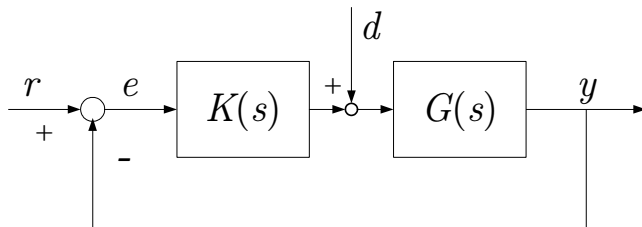

Figure 5.1 : Feedback Control System.
- ▶ For the closed-loop system in Figure 5.1, our closed-loop poles are given by
- For the heating system in Figure 5.1, the closed-loop pole is located at:
1. Consider Figure 5.1 and $G(s) = \frac{1}{s^2 + s + 1}$, for what values of k is the system stable?